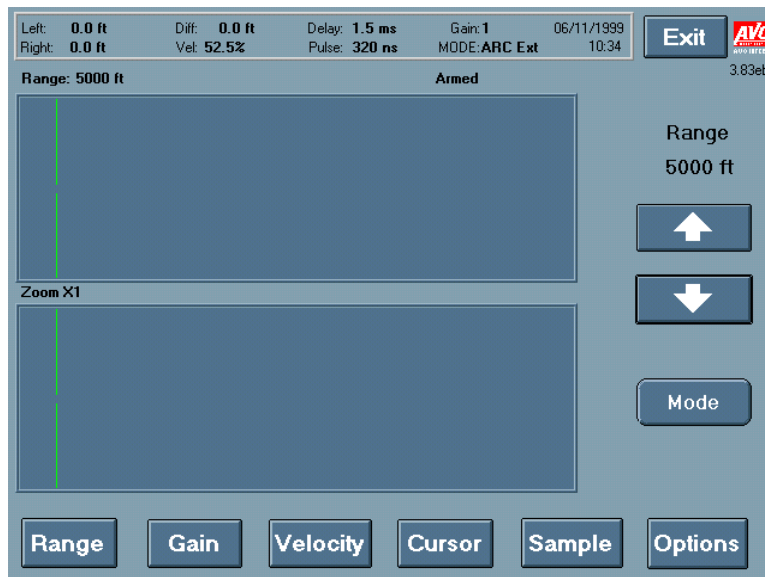

Figure 6-28 Range screen
1. Display the Range screen by pressing **Range** (Figure 6-28).